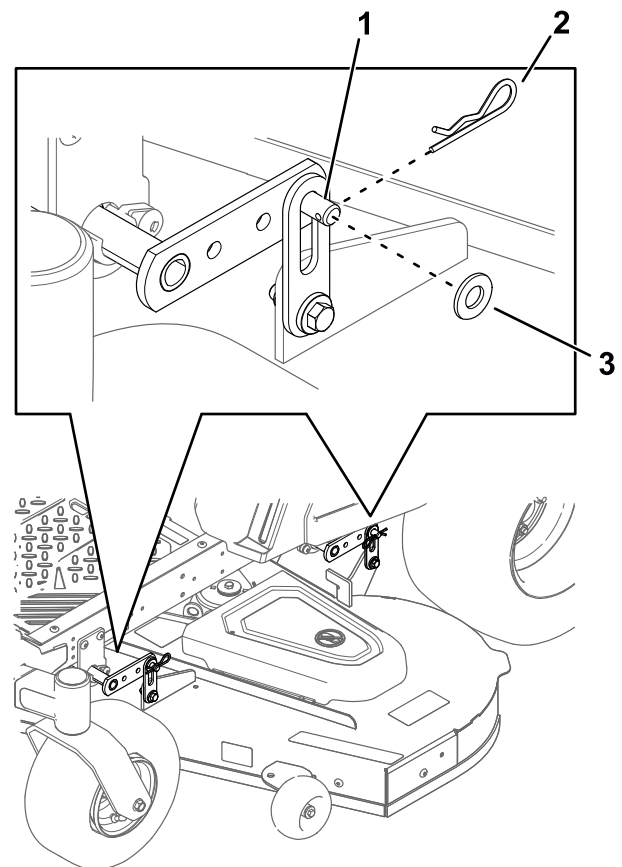

Figure 64
- At all 4 corners of the deck, remove the hairpin cotter and washer from the deck pin (Figure 64).
6. Lift the rear of the mower deck and attach the rear deck hangers to the rear deck pins (Figure 64).
7. Attach the front deck hangers to the front deck pins (Figure 64).
8. Secure the deck pins with the hairpin cotters and washers removed previously (Figure 64).